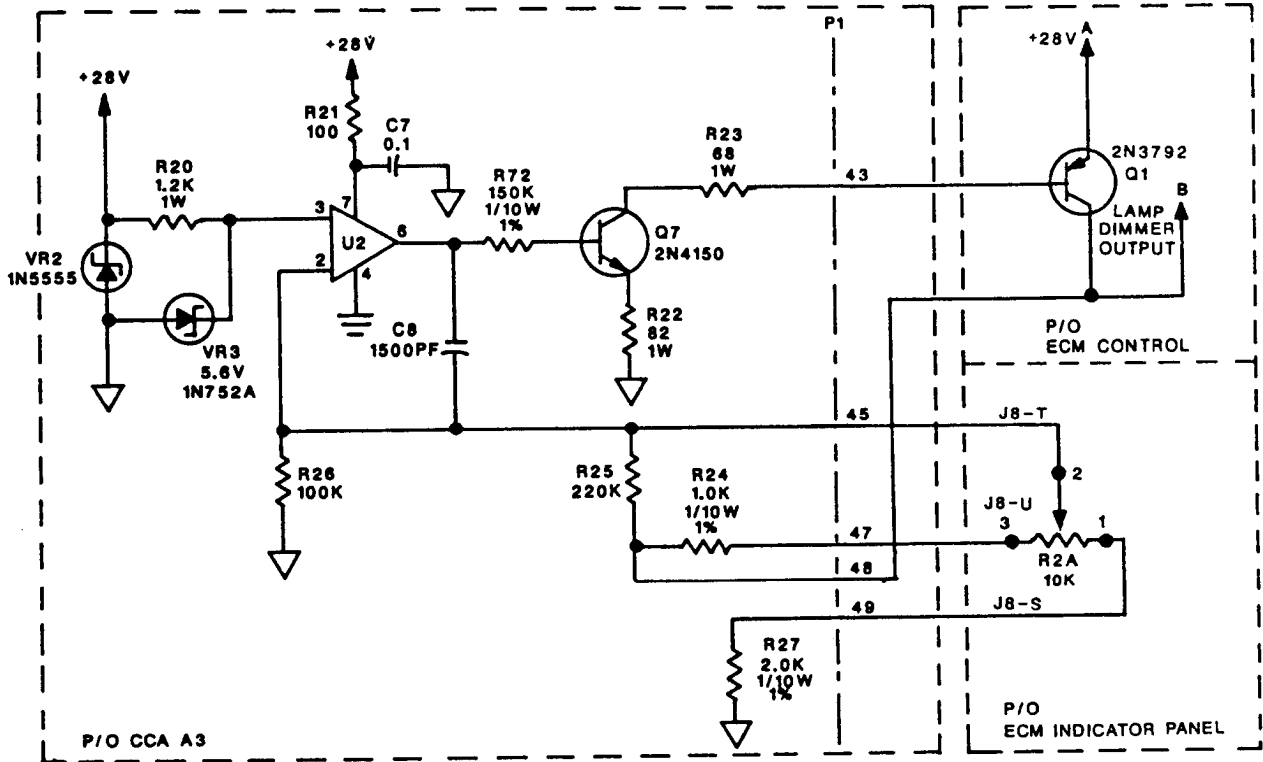

Figure 3-4. Countermeasures Control Lamp Control Circuits Simplified Schematic Diagram
(4) Lamp Control Circuit. As shown in figure 3-4, resistors R20 thru R27, zener diodes VR2 and VR3, amplifier U2, and transistor Q7 comprise a current-limiting circuit. The lamp control potentiometer in the external system equipment is connected to pins J8-S, J8-T, and J8-U. The LAMP DIMMER CONTROL input at pin J8-T varies the transistor Q7 output to power transistor Q1 on the countermeasures control chassis. The output of transistor Q1 is applied to terminal stud E2 for distribution to external system equipment at connector pins J2-g, J7-W, J7-X, and J8-J.